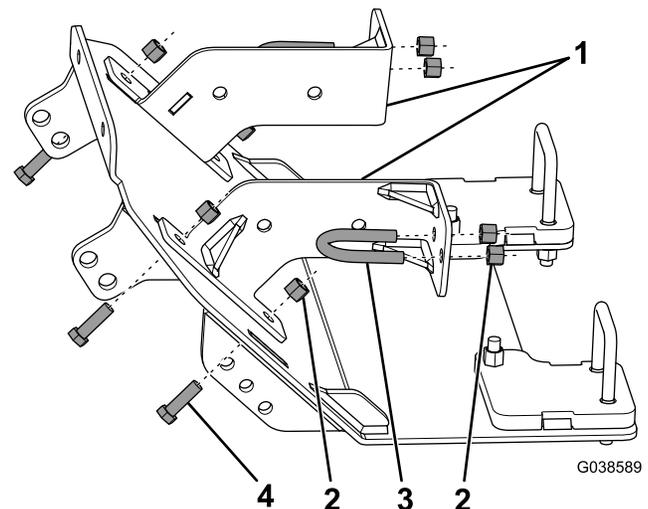

Figure 2
6. Loosely secure the side brackets to the vehicle frame using 2 U-bolts and 4 locknuts (3/8 inch) as shown in Figure 2.
7. Secure the side brackets to the plow skid plate and vehicle bumper using 4 bolts (3/8 inch) and 4 locknuts (3/8 inch) as shown in Figure 2.